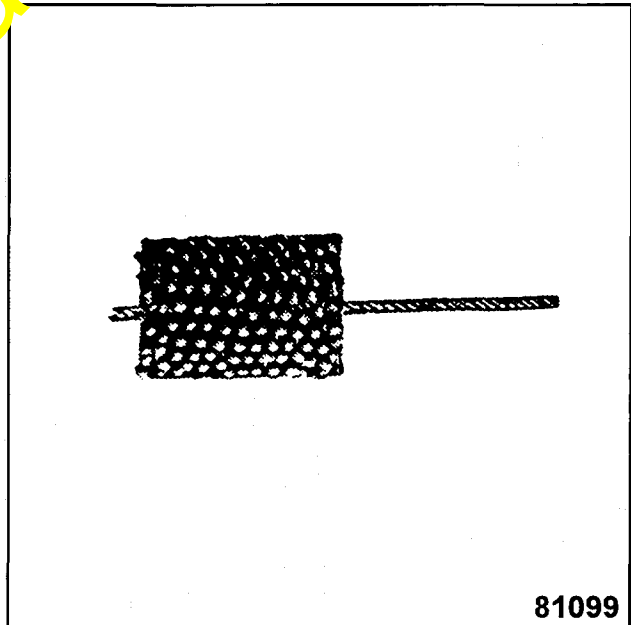

Figure 2 Ball Hone
1. Press new 1438325H1 bushings (9) into suspension arm.
2. Try inserting yoke into suspension arm bushings. The new bushings are undersize and may be too tight. DO NOT REAM BUSHINGS, use a ball hone (Figure 2) and hone the bushings until yoke can be inserted with .001 to .004 inch diametrical clearance.